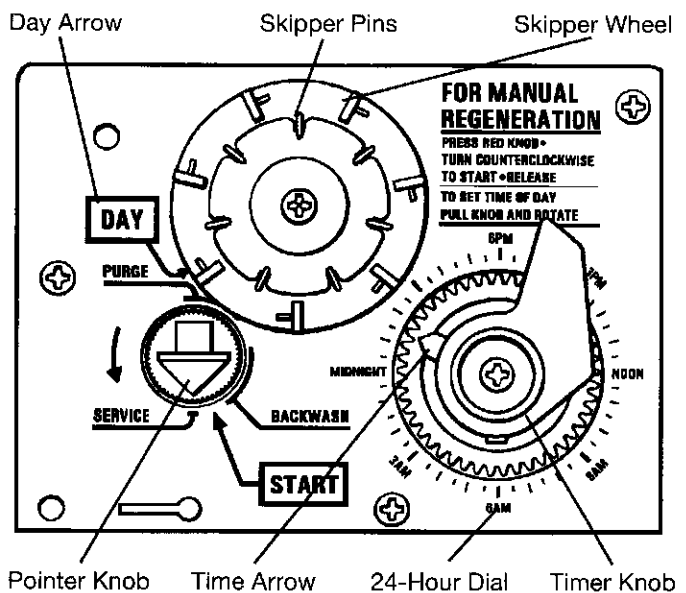

Figure 4
Note: The following steps will require turning the red pointer knob, (Figure 4), to various positions. Insert a wide blade screwdriver into arrow slot in pointer knob and press firmly. With knob held in, rotate **COUNTER-CLOCKWISE** until arrow or knob points to desired position. (Rotation is made much easier if you grasp the camshaft with your free hand and turn it at the same time.) Then permit pointer knob to spring back out.
- Insert screwdriver into slot in pointer knob, (Figure 4). Press in and rotate pointer knob **COUNTER-CLOCKWISE** until arrow points directly to the word **BACKWASH**.
1. Set days of regeneration on skipper wheel (Figure 4).